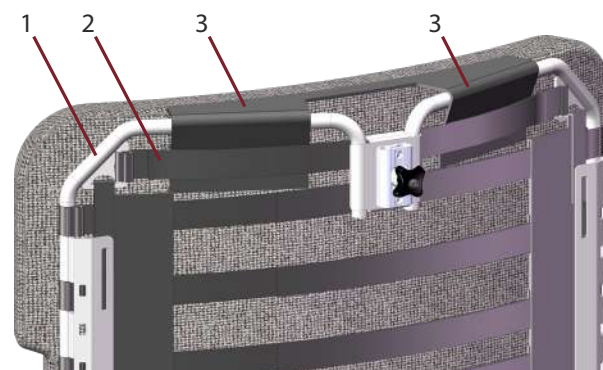
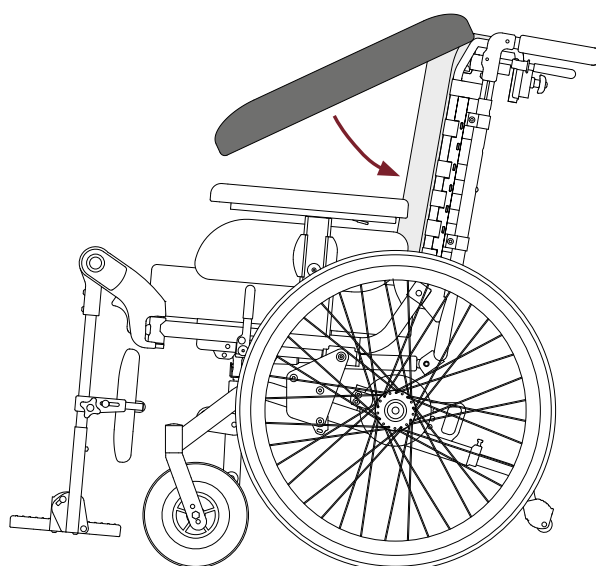

Figure 10. Straps fastened around Flexi-back
Figure 11. Setting the back cushion
- Fully release the top strap of the Flexi-back (2 in Figure 10)
- Attach the straps (3) at the top of the cushion around the Flexi back's tubes (1) with velcro as shown. Securing the cushion vertically reduces the risk of the cushion sliding down when moving in to and out of the wheelchair.
- Pivot the cushion downward and press firmly against the back (Figure 11).